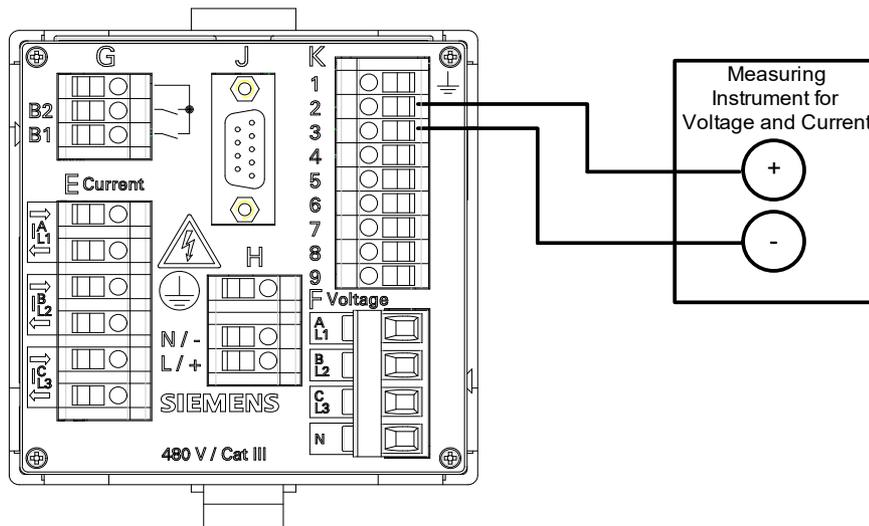

Figure 11-14 Measurement Setup for Calibrating the DC Analog Outputs
- ◇ Set up the measurement as shown in Figure 11-14.